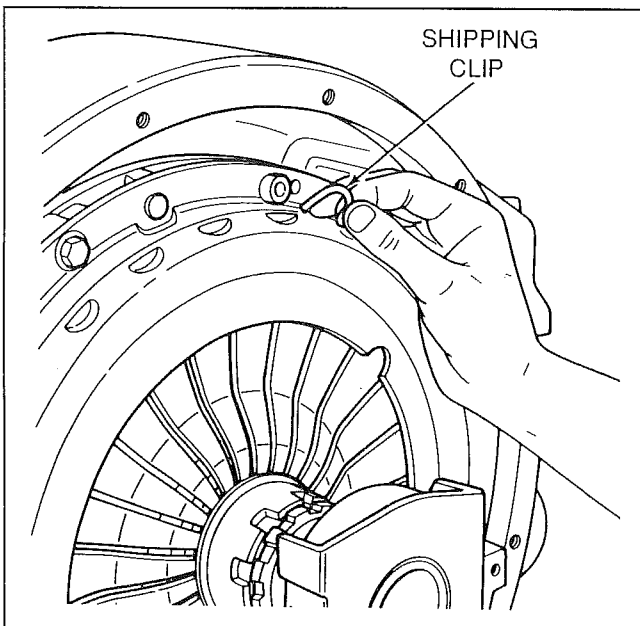

Figure 7-2. Installing Shipping Clips
12. If the clutch is to be reinstalled, install a shipping clip under the head of each of the 4 allen-head capscrews that attach the drive straps to the pressure plate (Fig. 7-2). The clips will keep the pressure plate in a partially retracted position and make pressure plate installation easier.